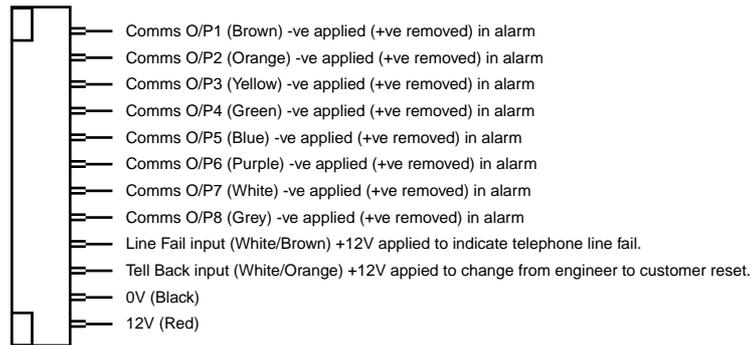

Figure 32. Communications Wiring Harness
3. Make any necessary connections from the communicator to the Communication Wiring Harness. Figure 32 shows the outputs available on the free ends of the Communication Wiring Harness. The default is a positive voltage when the output is inactive but this can be inverted if required using Command 159 (see page 109).